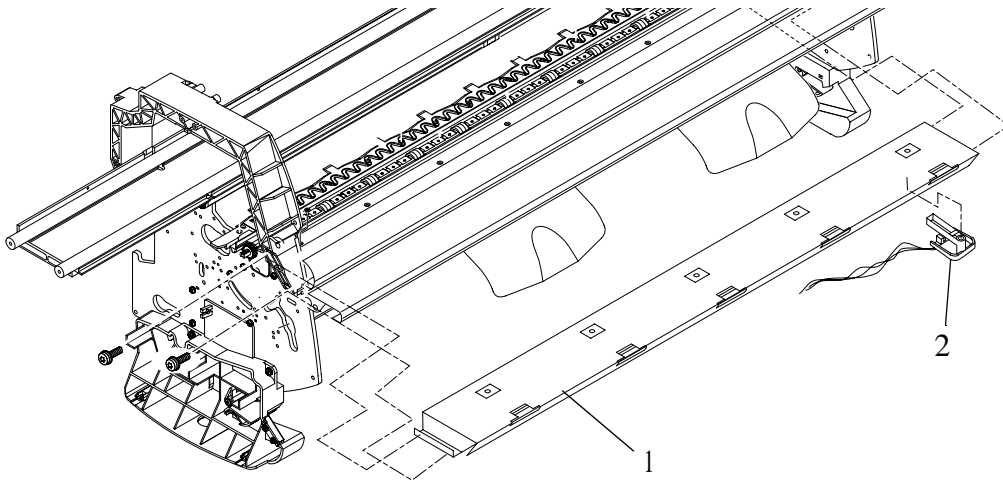

Figure 25: Media Sensor
2. Carefully remove the media sensor (item 2) from underneath the center guide (item 1) (refer to Figure 25).